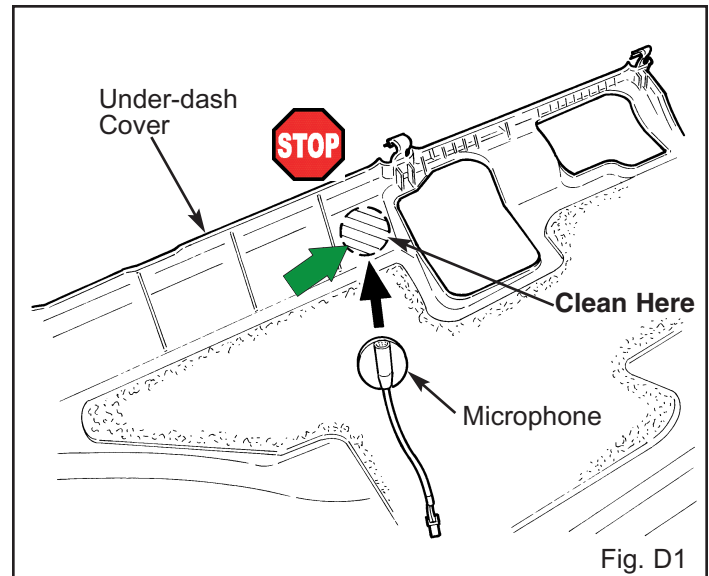

Fig. D1
- ➡ 1. Using 3M Prep Solvent -70 clean the area indicated on the back side of the under-dash cover. (Fig. D1)
2. Remove the backing sheet and secure the microphone to the back side of the under-dash cover. (Fig. D1)